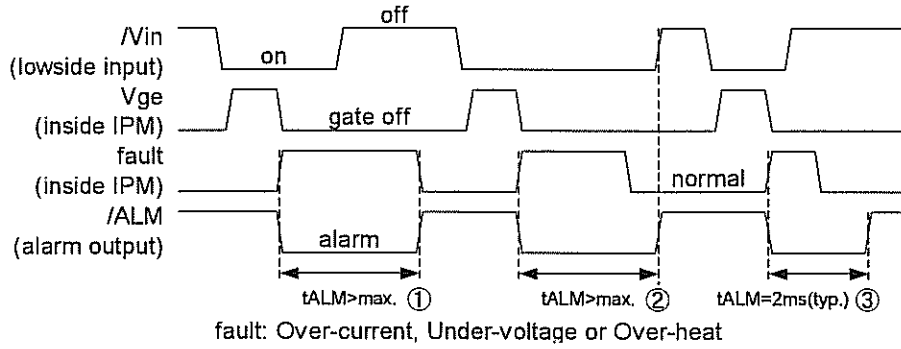

Figure 2. Input/Output Timing Diagram.
Necessary conditions for alarm reset (refer to ① to ③ in figure 2.)
- ① This represents the case when a failure-causing Fault lasts for a period more than t_{ALM} . The alarm resets when the input V_{in} is OFF and the Fault has disappeared.
- ② This represents the case when the ON condition of the input V_{in} lasts for a period more than t_{ALM} . The alarm resets when the V_{in} turns OFF under no Fault conditions.
- ③ This represents the case when the Fault disappears and the V_{in} turns OFF within t_{ALM} . The alarm resets after lasting for a period of the specified time t_{ALM} .